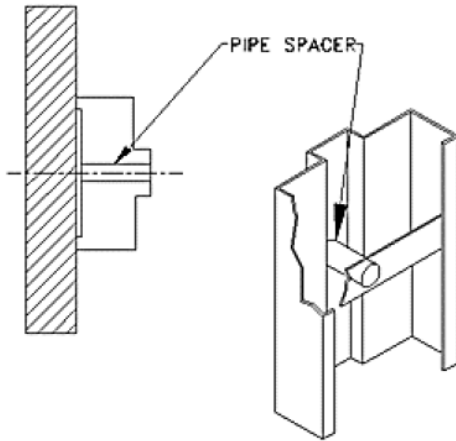

Figure 9
9. Expansion Bolt Anchor: (Figure 9) A hole punched and dimpled through the frame soffit to receive a 3/8 in. (9.5 mm) flat head machine bolt, expansion shield, with a crush proof tube and strap anchor welded to the back. This anchor may be used on fire rated frames only when installed in existing masonry and concrete openings.